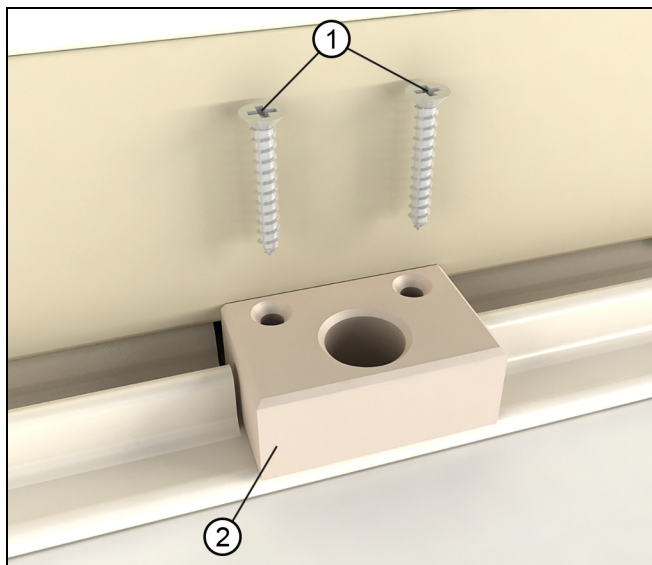

Figure 1
*NOTE: For UIFD OXXO units, the sill will need to be marked and routed for the sill strike. Measure from the passive panel side of the sill and make a mark on the sill screen track using the dimensions indicated below. Make another mark 1 1/4" (32) over from the first mark. See Figure 1 for the area that needs to be removed with a router or rotary tool.*